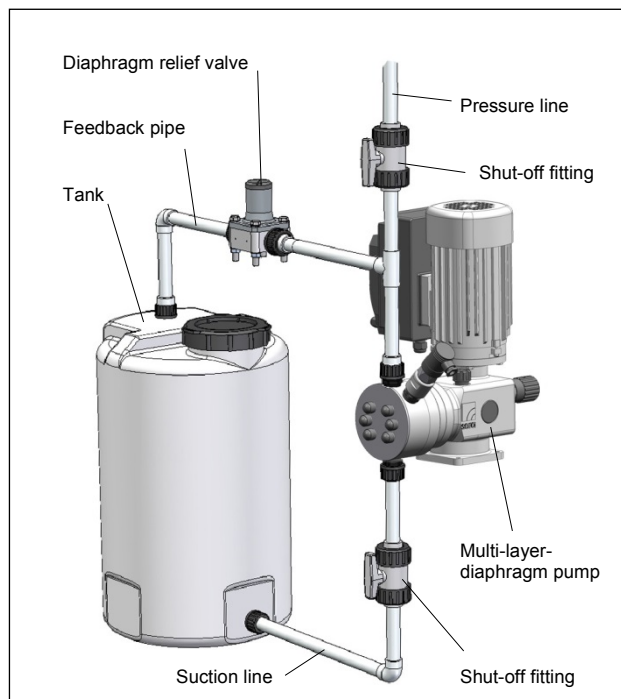

Fig. 20 Installation with diaphragm relief valve (into tank)
- lead the overflow line with descending gradient in the storage tank which is under atmospheric pressure or lead it in an open drain gutter (see Fig.20).